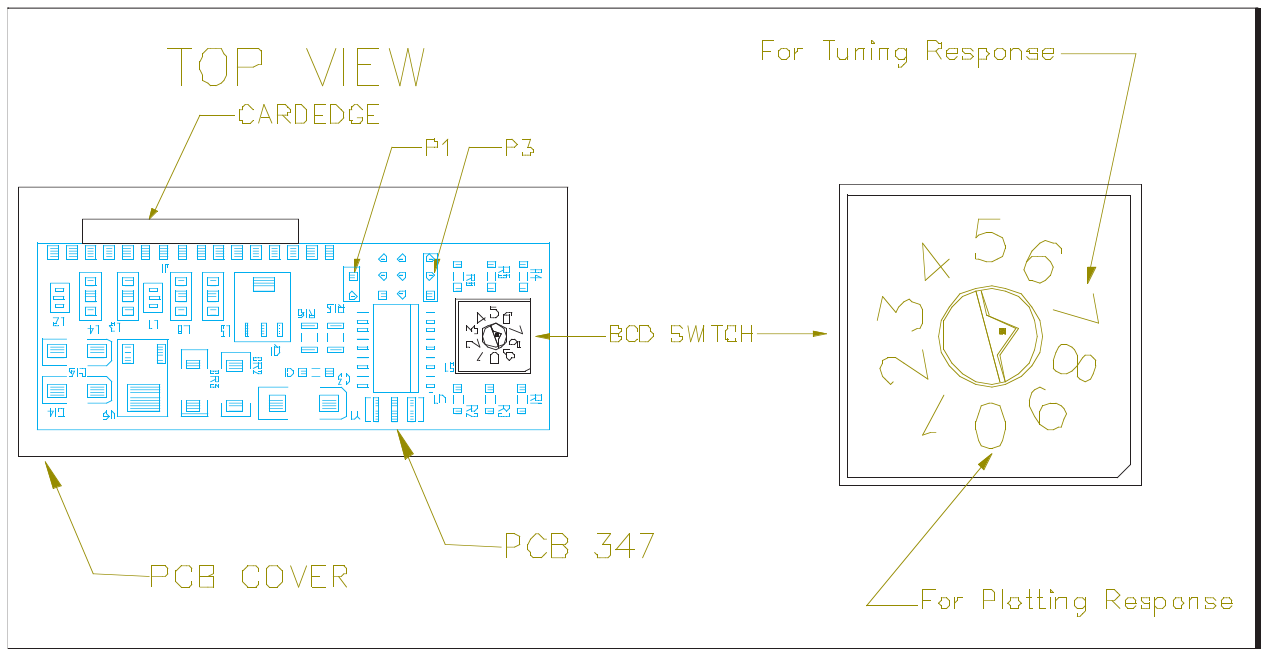

Figure 1. Using the BCD switch on the 347 PCB. Position 7 is for data communications
3. Connect the UPC programming cable, 955-001-0029, between the computer serial port and the P3 programming pins located on the 347 PCB. See Figure 1.